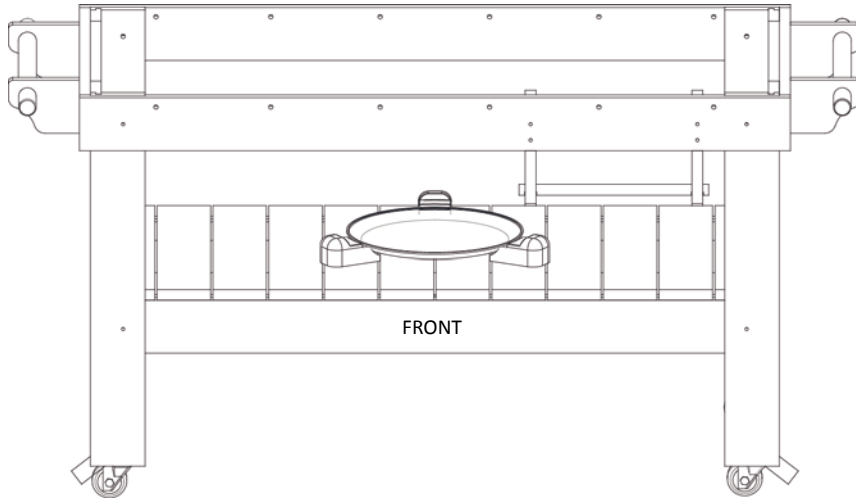

Figure 10
STEP 3 Place the three ceramic grill feet on the bottom shelf of the grill table to form a triangle \triangle with the top being the back of the grill table. The other two feet should be placed just to the left and right of the bottom vent door. Place the Heat Shield pan over the three ceramic grill feet. (See Figure 10)